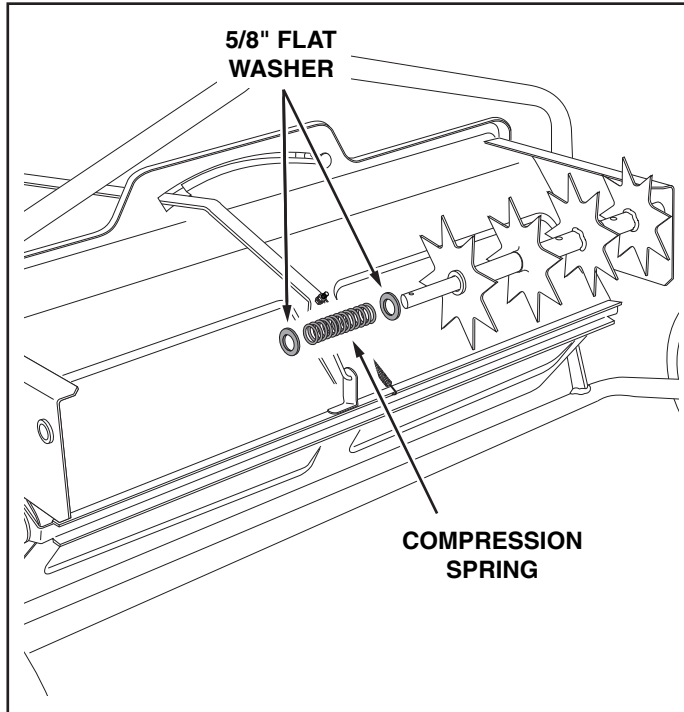

FIGURE 16
- Place a 5/8" flat washer, the compression spring and another 5/8" flat washer onto the shaft. See figure 16.